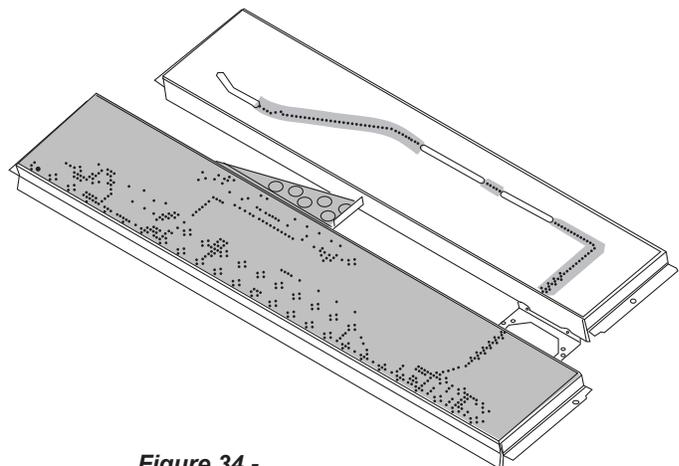

Figure 34 -
2. Distribute one layer of rock wool to cover the burner. *Figures 34 & 35*